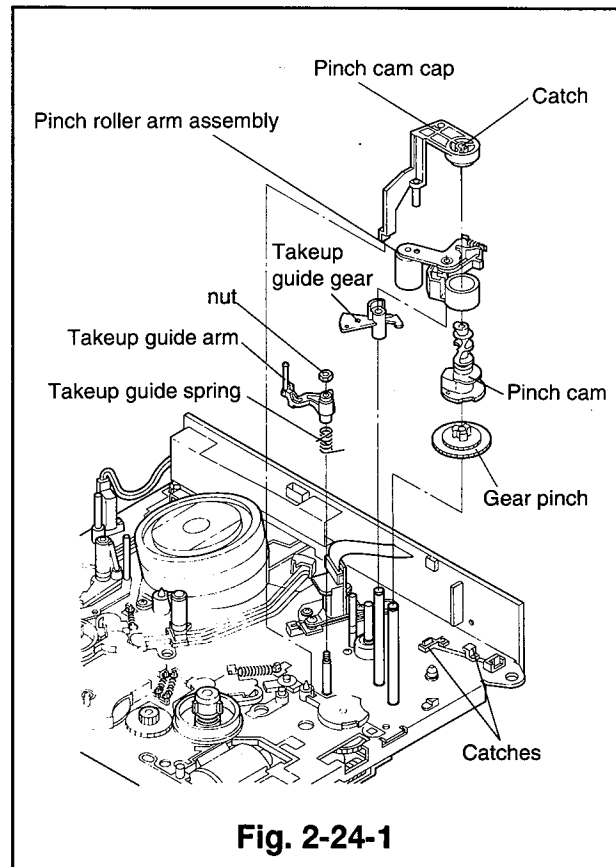

Fig. 2-24-1
- ① Unfasten the catch shown in Fig. 2-24-1 and raise the pinch cam cap upward to remove it.
- ② Raise the pinch roller arm assembly upward to remove it.
- ③ Raise the pinch cam and the takeup guide gear upward to remove them from the shaft.
- ④ Unfasten the two catches holding the mode switch and remove the gear pinch from the shaft, lift the mode switch only high enough to remove the gear pinch. (Take care not to break the pins of the mode switch.)
- ⑤ Remove the nut at the top of the takeup guide arm with a (5.5mm) box screw driver.
- ⑥ Raise the takeup guide arm upward to remove it.
- ⑦ Remove the takeup guide spring.
- ⑥ Turn the takeup guide arm clockwise while inserting the pinch cam into the gear pinch. Install the pinch cam so that it aligns with the triple catch. (Excessive rotation of the takeup guide arm will keep it from returning, since the takeup guide gear is caught on the pinch roller cam.)
- ⑦ Apply the grease (PG-641)[859D055O30] to the new pinch cam cap on the area shown in Fig. 2-24-1.
- ⑧ Install the pinch roller arm assembly and the pinch cam cap.